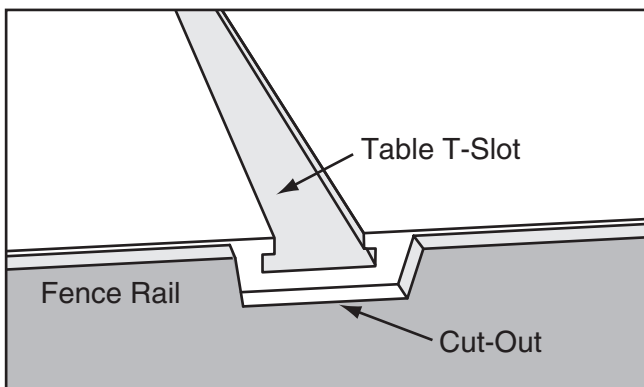

Figure 9. Example of a fence rail modification for table T-slot access.
5. If you have long fence rails that will extend beyond the router table T-slots, you will have to modify the top of the rails. This entails making a cut-out that matches or exceeds the dimensions of the router table T-slot, as illustrate in **Figure 9**